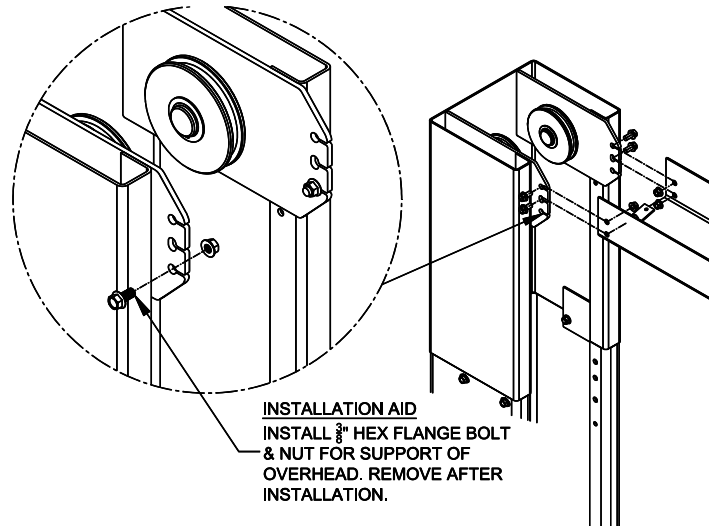

**Fig. 3 – Column Shimming**
**Complete steps 8 thru 11 for the six (6) exposed anchors around each column, then raise the carriages. Repeat steps 8 thru 11 for the two (2) anchors under each carriage.**
- 9) Shim both columns to plumb using the shims provided as shown in **Fig. 3**. DO NOT shim more than 1/2" at any given point. Use a level no less than 24" in length to plumb columns.
- 13) Check idler column shimming. Use additional shims (*see Fig. 3*) to remove any gaps that may have been created while installing overhead beam. Tighten anchor bolts and re-check column for plumb. Torque to 150 foot pounds.